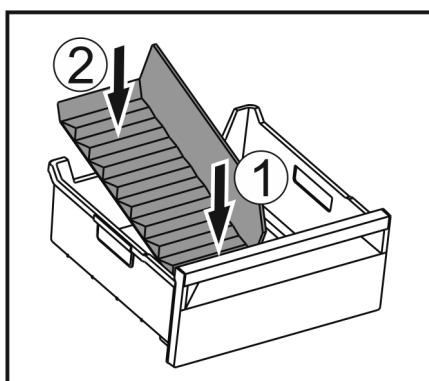

Fig. 105
- Insert the front part of the ice compartment divider. Fig. 105 (1)
- Lower the rear part of the ice compartment divider to the drawer bottom. Fig. 105 (2)